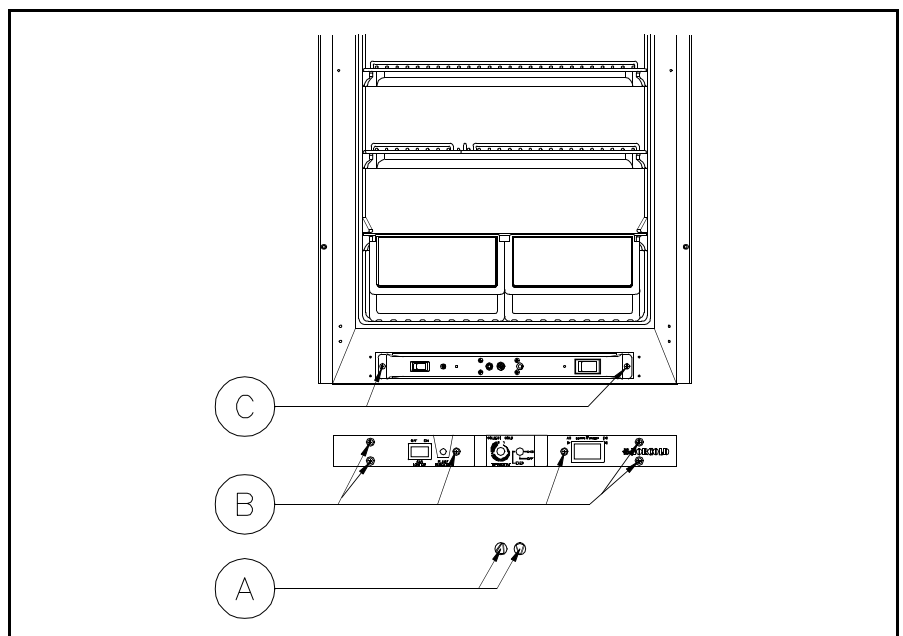
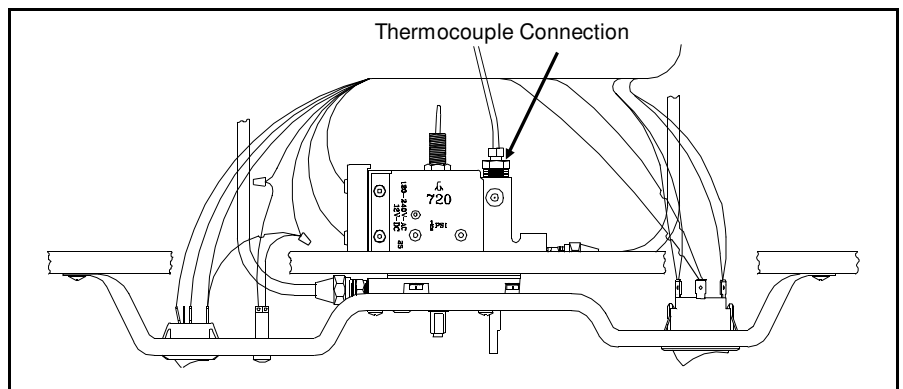

Figure 3.18 Controls Access
Figure 3.27 Thermocouple Connection
3. If preceding checks did not reveal the cause of malfunction, then access to the control panel is required per Figure 3.18. The first step in gaining access is to remove the two control knobs (A), then remove the (6) Phillips head screws (B). Once the control panel has been removed, you need to remove the (2) Phillips head screws (C). Then pull the control mounting bracket forward. This allows access to the controls.
3. Another check to perform would be to remove the control panel and control mounting bracket as shown in Figure 3.18. This will allow you to check the tightness of the thermocouple connection into the combination control as shown in Figure 3.27.
8. Access to the combination control is gained by removing (2) knobs and (6) screws as shown in Figure 3.18. The Combination Control needs not be removed for the pressure check.